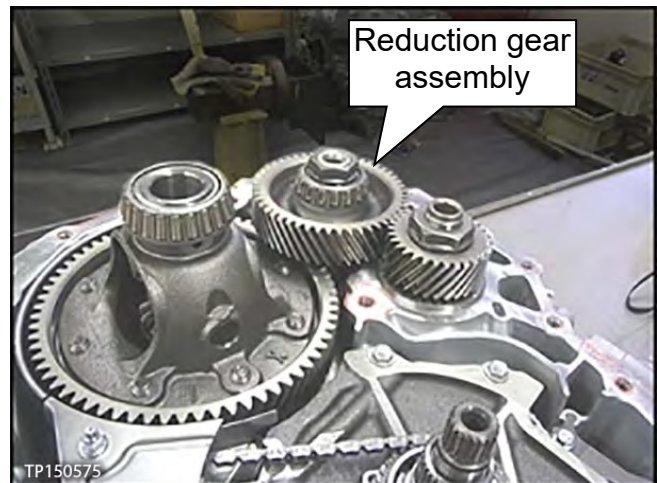

Figure 83
19. Install the new reduction gear assembly into the CVT case (see Figure 83).